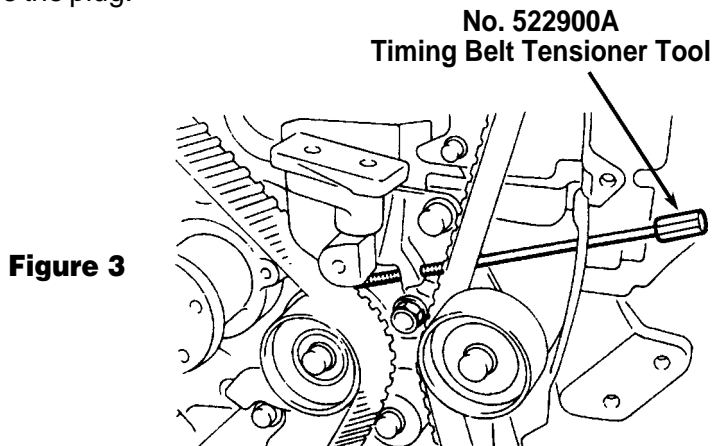

**Figure 1**
1. Follow the vehicle manufacturer's specifications to assemble and position the timing belt tensioner pulley. See Figure 1.